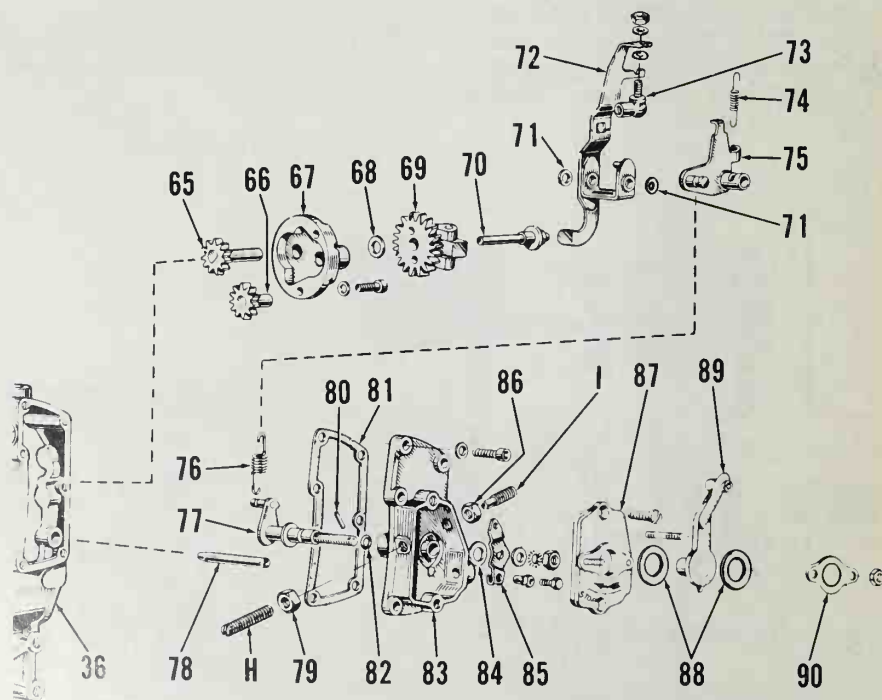
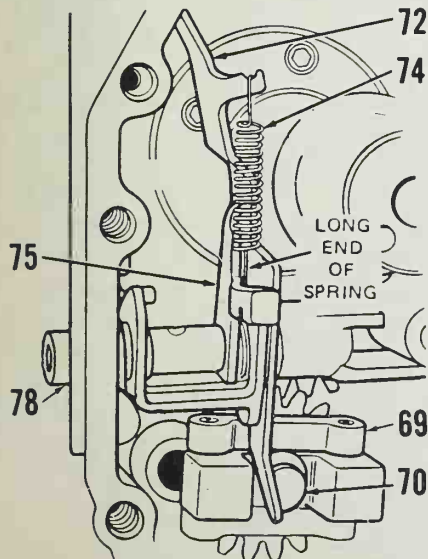

Fig. W2-15—Exploded view of oil pump, governor and linkage.
Fig. W2-16—View of governor linkage. Long end of spring (74) attaches to pivot (75).
REMOVE AND REINSTALL. Refer to Fig. W2-15 for an exploded view of governor and control linkage. Remove cover (83) and gear cover (98—Fig.
W2-18) for access to governor and linkage. Do not lose camshaft shims (95) which may remain on gear cover. Mark shims (71—Fig. W2-15) so they may be returned to original position.
Reassemble by reversing removal procedure. Install shims (71—Fig. W2-15) in their original location. Install spring (74) so long end is connected to intermediate lever (75) as shown in Fig. W2-16. Tighten gear cover nuts to 24.5 N·m.
R&R AND OVERHAUL. Refer to GOVERNOR section and remove governor and oil pump unit. Press governor off oil pump gear shaft (65—Fig. W2-15). Inspect oil pump gears and housing and renew if damaged or worn excessively. Oil pump housing and gears are available individually. Reverse disassembly procedure to assemble oil pump. Be sure thrust washer (68) is on oil pump shaft before pressing governor assembly onto shaft.